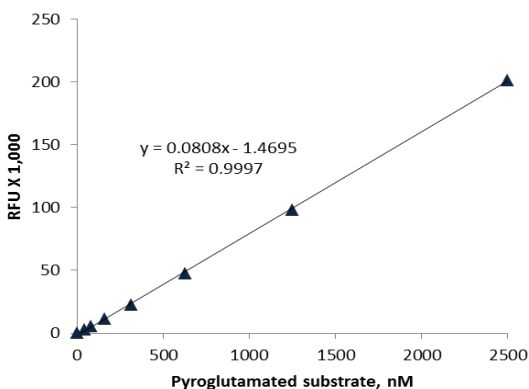

Figure 3. Example of pyroglutamated reference standard curve.
- Plot pyroglutamated standard curve as RFU (relative fluorescent units) versus concentration as shown in Figure 3.